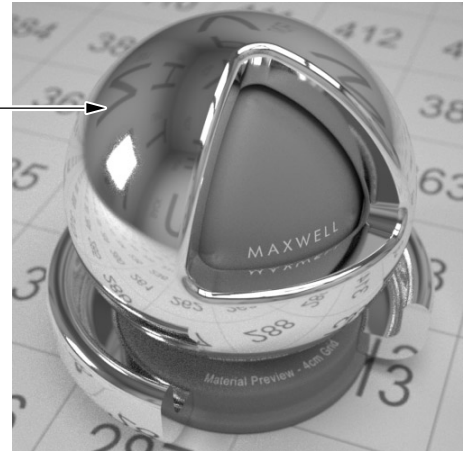

FIGURE 1
If the result looks like figure 1 then all is good.
STEP 3: If the render did not come up as in figure 1, then: